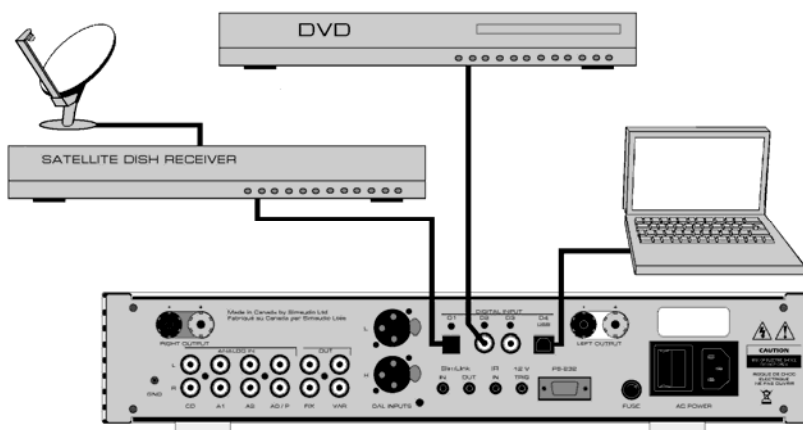

Figure 2: MOON i 3.3 Optional Digital Inputs – connection examples
There are two (2) different settings available for setting the resistive load; 100Ω and 47kΩ which are represented by jumper sockets R9 for the left channel and jumper socket R24 for the right channel (refer to figure 2 – section labeled "LOADING"). The factory default setting is 47kΩ, therefore both jumpers will be found in each of the two left most sockets.
There are two (2) different settings available for the capacitive load; 0pF and 100pF which are represented by jumper sockets C9 for the left channel and jumper sockets C17 for the right channel (refer to figure 2 – section labeled "LOADING"). The factory default setting is 100pF for a moving magnet cartridge, therefore both jumpers will be found in each of the two right most sockets.
There are two (2) different settings available for gain level. They are 40dB for MM cartridges and 60dB for MC cartridges, which are represented by jumper socket J17 for the left channel and jumper socket J22 for the right channel (refer to figure 2 – section labeled "GAIN"). The factory default setting is for a MM cartridge, therefore both jumpers will be found in each of the two right most sockets labeled MM; ***It is highly recommended that you do not use the jumpers labeled MC for an MM cartridge as this will overload the preamplifier.*** In the event that you're using a MC cartridge, you should insert the supplied jumpers into each of the two left-most sockets labeled MC.
The rear panel will look similar to Figure 2 (above). There are four (4) pairs of single-ended analog inputs on RCA connectors labeled CD, A1, A2 and A3/P. The left channel inputs are located on top and the corresponding right channel inputs are located directly below. In the event that your **MOON i 3.3** is equipped with the aforementioned optional phono section, the input labeled ‘A3/P’ must be used to connect your turntable interconnect leads to this integrated amplifier. If you don’t have the optional phono section installed, then this input can be used in the same way as CD, A1 and A2 inputs.